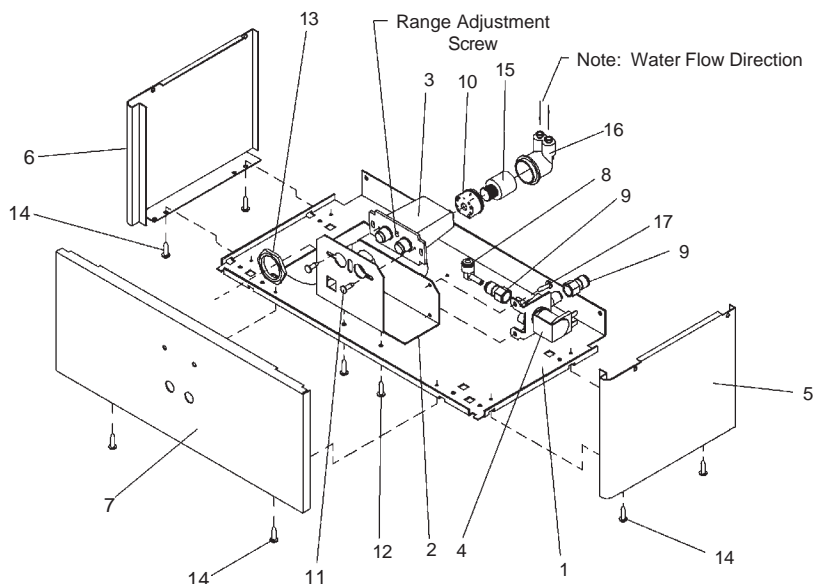

FIG. 3
- b. Using a small tip screwdriver, rotate range adjustment screw clockwise to increase range and counter-clockwise to decrease range. (See Fig. 3).
- 8) Stream height is factory set at 35 PSI. If supply pressure varies greatly from this, adjust screw, accessible by removing front panel (Item 7, Fig. 3). CW adjustment will raise stream and CCW adjustment will lower stream. For best adjustment, stream should hit basin approximately 6-1/2" (165mm) from bubbler.
- 9) Replace the front panel and secure by retightening four (4) screws.